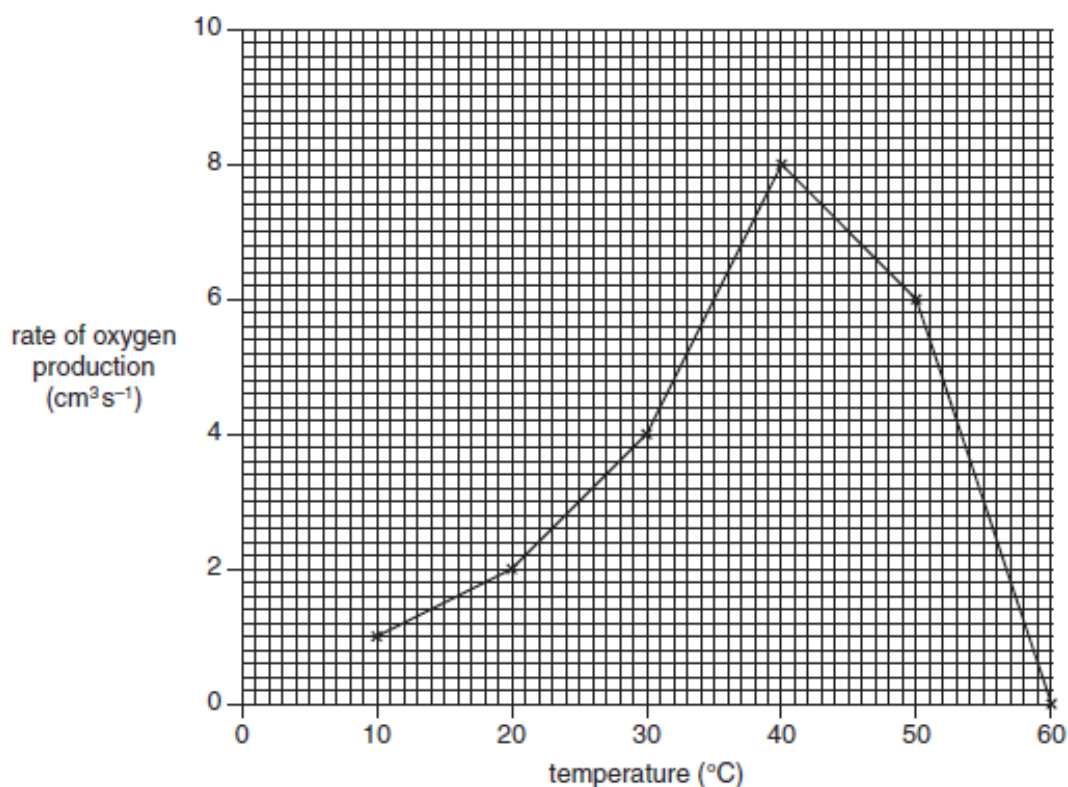

Fig. 2.2
- (c) Another student carried out a similar procedure and presented his results as a graph. The graph that he drew is shown in Fig. 2.2.
- (i) Describe the data shown in Fig. 2.2.
Using the information in Fig. 2.2, calculate Q_{10} between 15°C and 25°C.